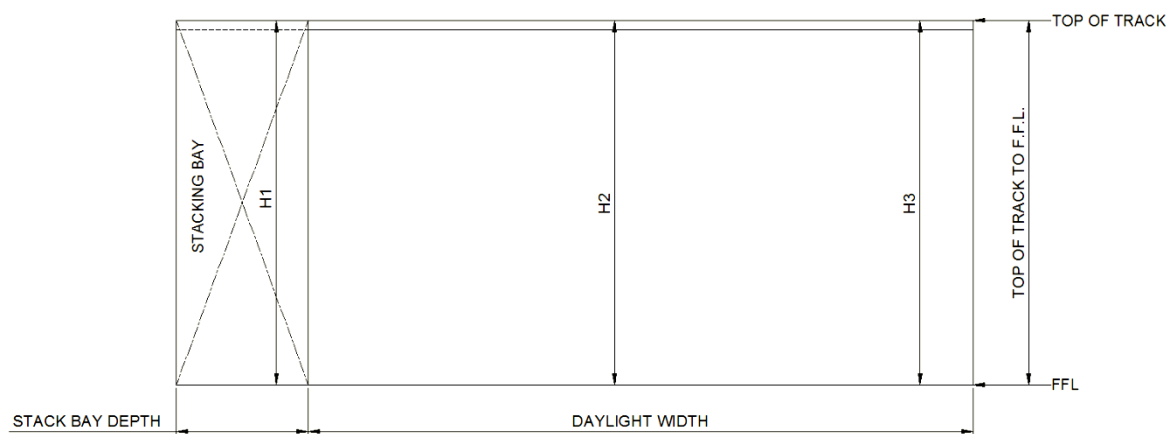

Figure 1
- Measure the height in random distance (Fig.1)
- Always refer from Top of Track to the Finish Floor Line (Fig.1)
- Measure the “Daylight Width” (Fig.1)